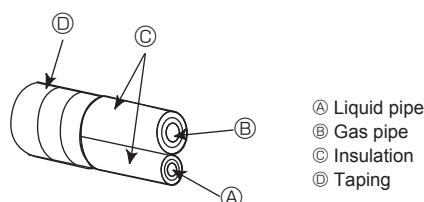
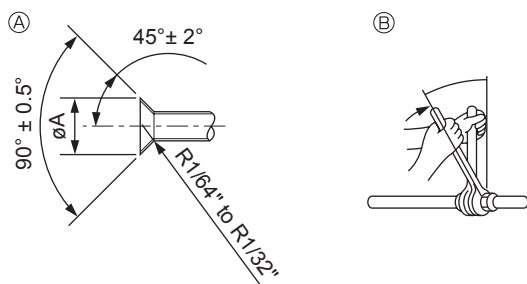

Fig. 4-2
Fig. 4-3
① (Fig. 4-3)
4.3. Connecting pipes (Fig. 4-2) (Fig. 4-3)
- [Fig. 4-3]
- Apply thin layer of refrigerant oil to pipe and joint seating surface before tightening flare nut. ①
- Use 2 wrenches to tighten piping connections. ②
- Apply refrigerating machine oil over the entire flare seat surface. ③
- Use the flare nuts as follows. ④
- ① Pipes must be connected starting from the indoor unit.